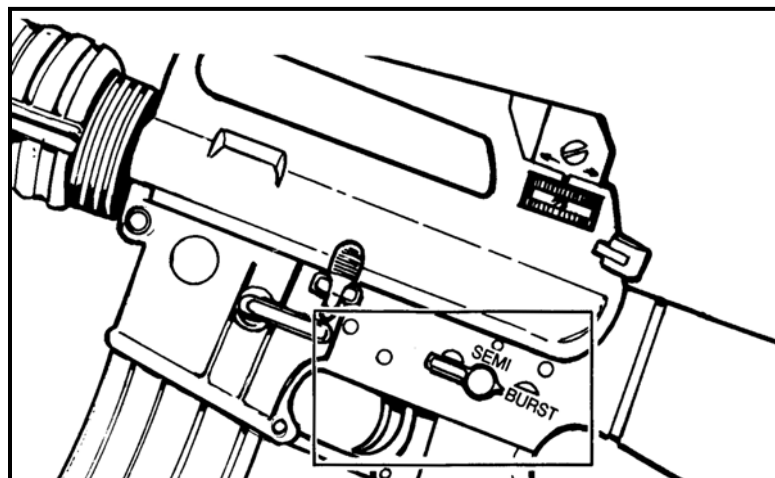

Figure 4-12. Burst fire mode.
c. **Burst Fire Mode (M16A2/A4 Rifle, M4 Carbine).** When the selector lever is set on the BURST position (Figure 4-12), the rifle fires a three-round burst if the trigger is held to the rear during the complete cycle. The weapon continues to fire three-round bursts with each separate trigger pull as long as ammunition is in the magazine. Releasing the trigger or exhausting ammunition at any point in the three-round cycle interrupts fire, producing one or two shots. Reapplying the trigger only completes the interrupted cycle; it does not begin a new one. This is not a malfunction. The M16A2/4 and M4 disconnectors have a three-cam mechanism that continuously rotates with each firing cycle. Based on the position of the disconnecter cam, the first trigger pull (after initial selection of the BURST position) can produce one, two, or three firing cycles before the trigger must be pulled again. The burst cam rotates until it reaches the stop notch.